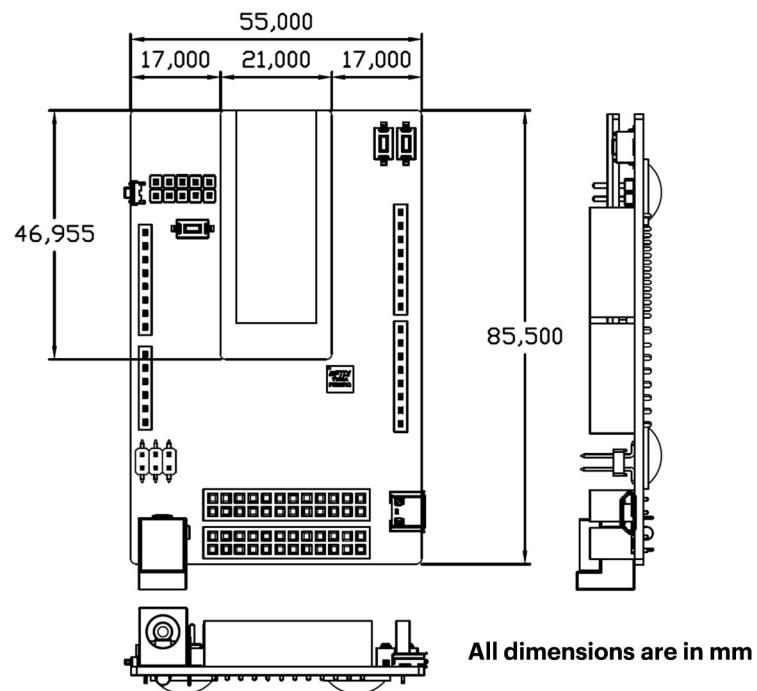

Figure 9. ARTIK 055s Starter Board Mechanical Specifications
*Figure 9* shows the dimensions of the ARTIK 055s Starter board.